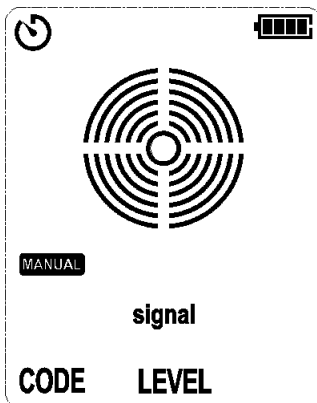

Figure 7.2.3a No Signal Detected
1. Power on the receiver and then short press the AUTO/MANUAL button to switch to manual mode, as shown in Figure 7.2.3a.